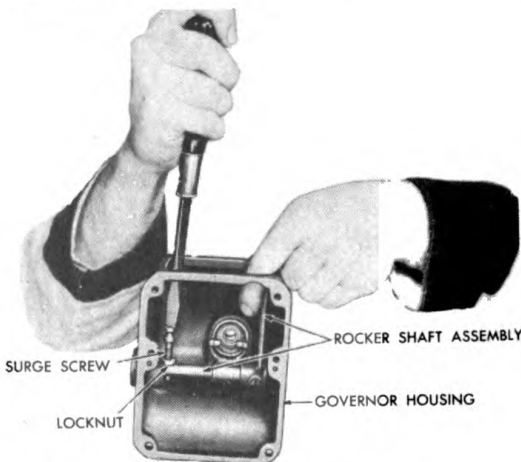

Figure 214. Removing Surge Screw from Rocker Shaft.
3. Remove the spring and surge bolt, shown in Figure 214.